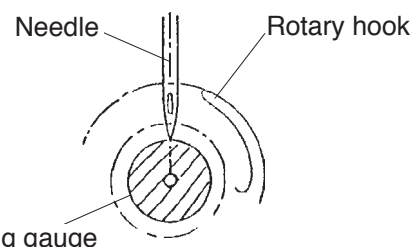

Fig. 6
- Check the needle depth on all needles. Pull white plastic $\phi 17$ measuring gauge in and out of rotary hook in fig. 6. If measuring gauge brushes lightly against tip of needle, needle height is correct. Note: Measuring gauge is contained in tool box.